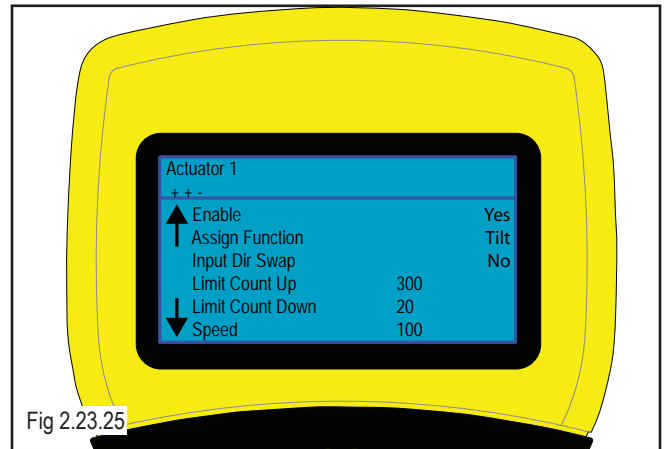

Fig 2.23.25
- If using the HHP, this value may be found under Program, Motor Controller, then Actuators, then Actuator 1 or 2. (fig 2.23.25)